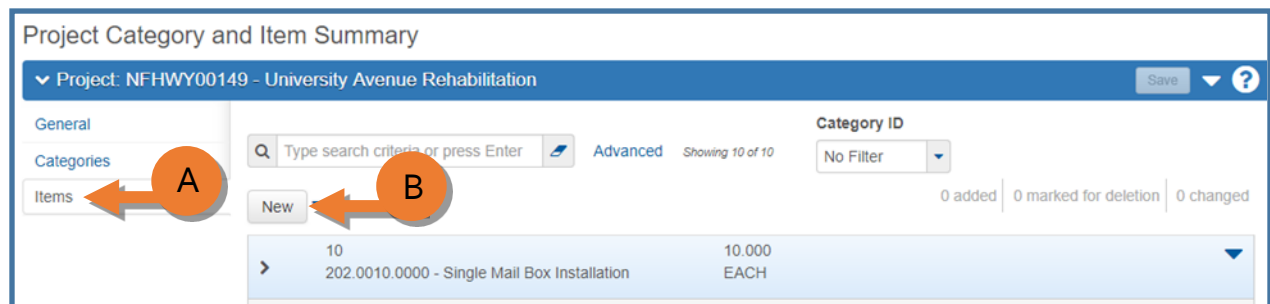

Figure 3.29
3. (A) Select the **Items** tab (*Figure 3.29*).
4. (B) Click the **<New>** button.